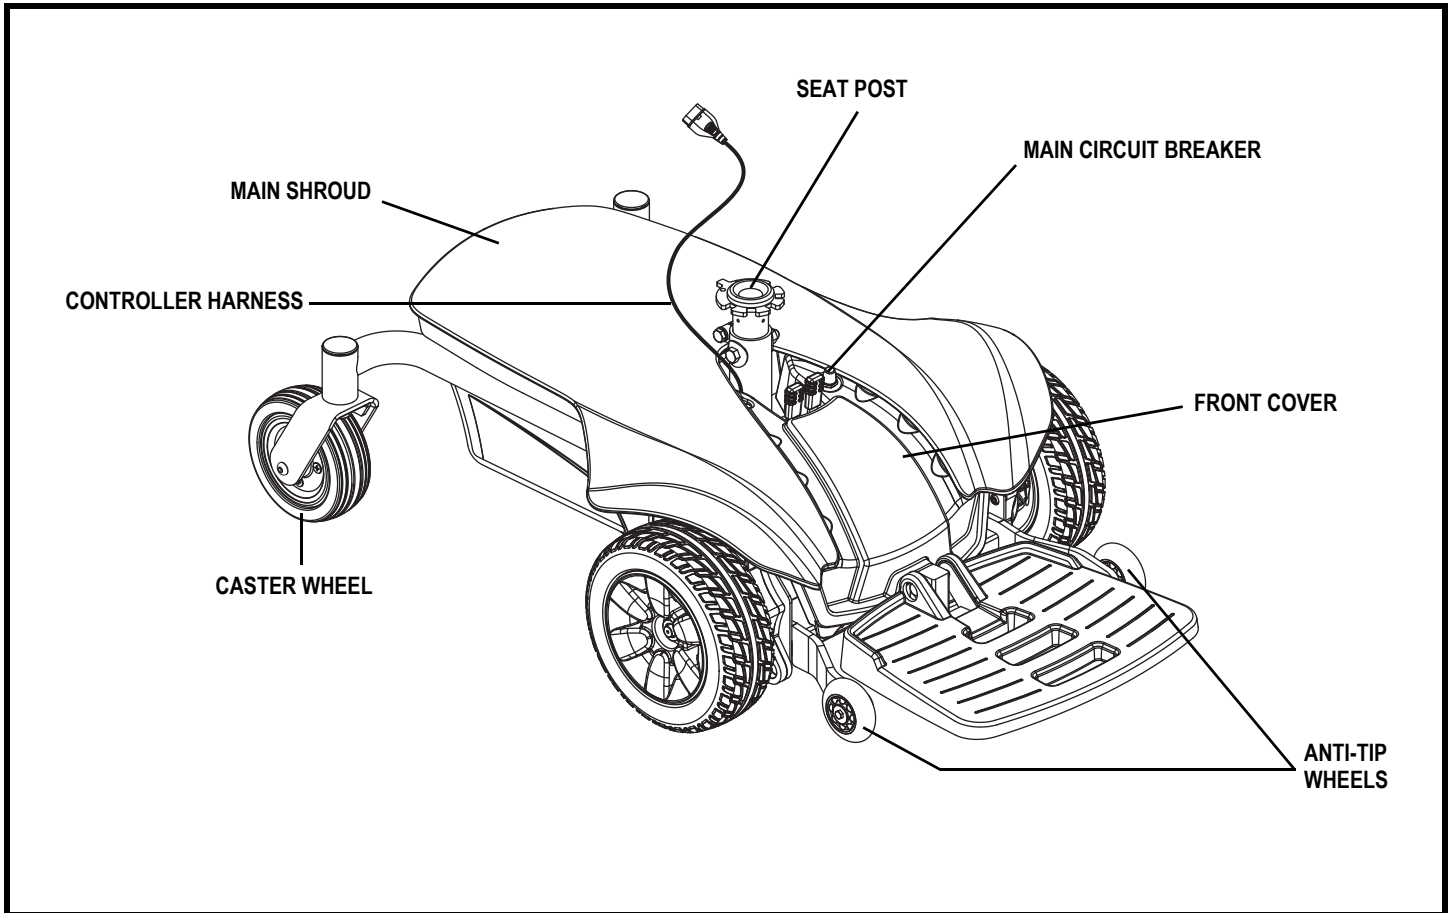

Figure 2. The Jazzy Sport 2 Power Base
5. Plug the controller harness into the connector on the power base. **See figure 2.**